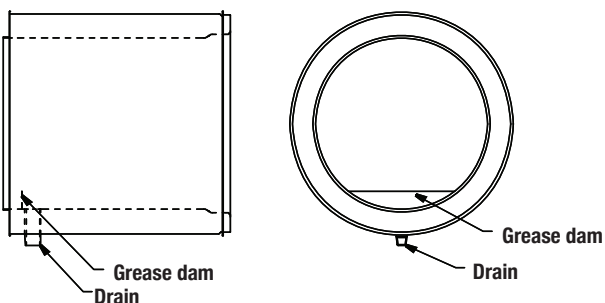

Figure 67 - Horizontal Drain length
3. The adjustable length assembly includes a sliding inner section, two containing rings, one compression band, a graphite packing gasket, an insulation band (CIX only) and a telescopic outer casing. There is a tool supplied with this assembly. (see **Figure 67**).
1. Horizontal Drain length is equipped with a 1" (25) NPT nipple, which is attached to the inner flue and extends through the outer casing to provide a path to drain grease, condensate or wash water from the duct. See **Figure 67**.